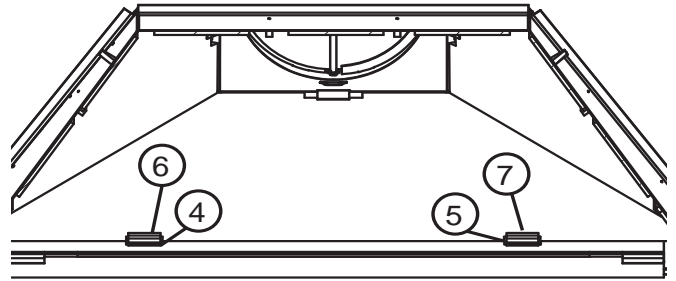

FIG.2
- B. Remove screws from lower brackets and remove front lower panel. Then remove screws from upper brackets and remove front upper panel **(FIG.2)**
E. Slide front upper panel into smoke chamber then front lower panel and install brackets. **(FIG.2)**